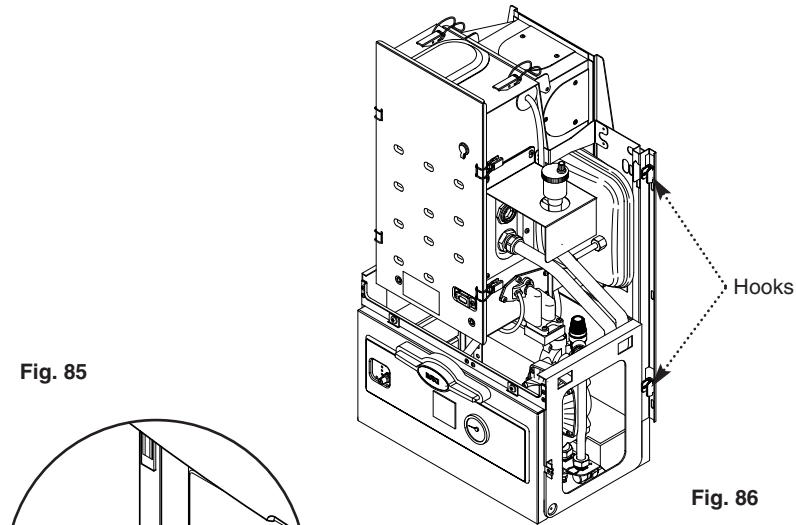

Fig. 85
4. Using the two screws previously removed, secure the outer case to the combustion box (Fig. 85).